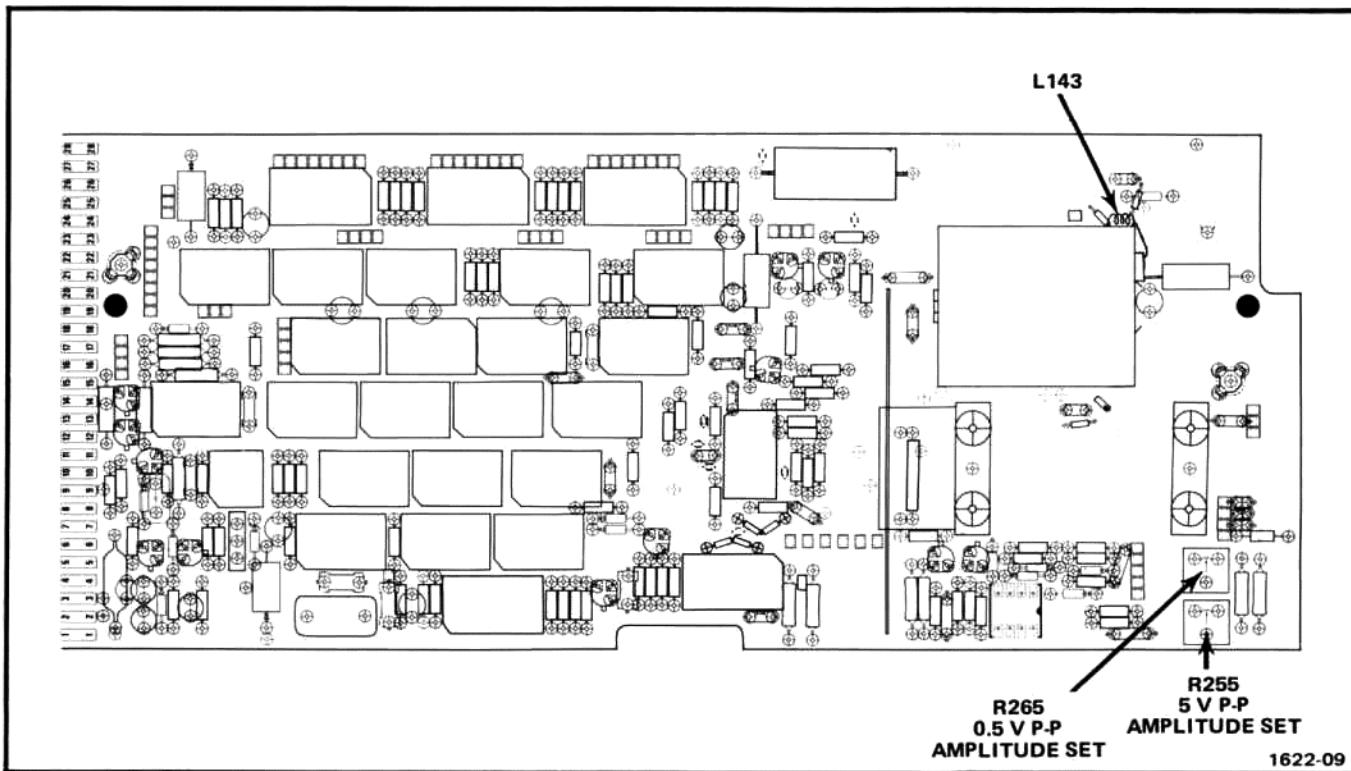
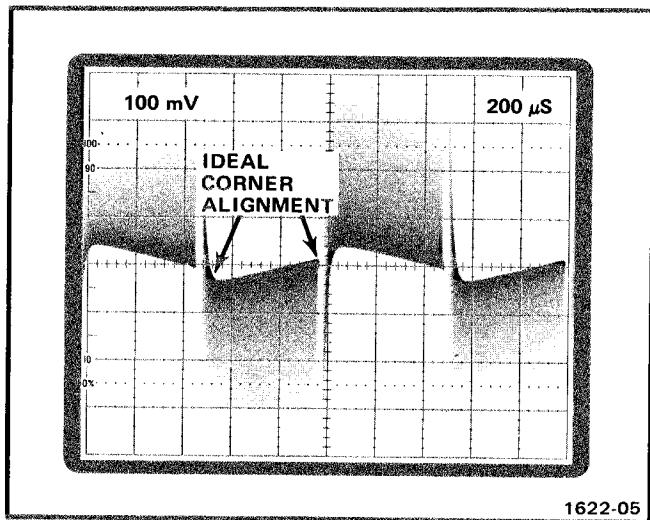

Fig. 3-2. Location of L143, 0.5 V P-P, and 5 V P-P Amplitude Set.
Fig. 3-3. Display of complex waveform (idealized) obtained when the amplitude set controls are properly adjusted at 0.05 MHz.
- f. Adjust—5.0 P-P Amplitude Set, R255, so the corners of the idealized waveform are aligned as illustrated in Fig. 3-3. See Fig. 3-2 for adjustment location.
- d. Set the time-base triggering controls for a stable display; a crt display similar to Fig. 3-3 is obtained.
- e. Check—that the corners of the idealized waveform are aligned as illustrated in Fig. 3-3. Disregard waveform tilt.
- i. Check—that the waveform is similar as illustrated in Fig. 3-3.
- j. Adjust—0.5 V P-P Amplitude Set, R255, so the corners of the idealized waveform are aligned as illustrated in Fig. 3-3. See Fig. 3-2 for adjustment location.
c. Check—that the corners of the idealized waveform are not separated by more than 1.5 vertical divisions. See Fig. 3-3 for waveform illustration.
g. Check—that the corners of the idealized waveform are not separated by more than 1.5 vertical divisions. See Fig. 3-3 for waveform illustration.
- e. Adjust—L143, (physically moving coil), to meet the suppression requirement as given in part d of this step. See Fig. 3-2 for adjustment location.